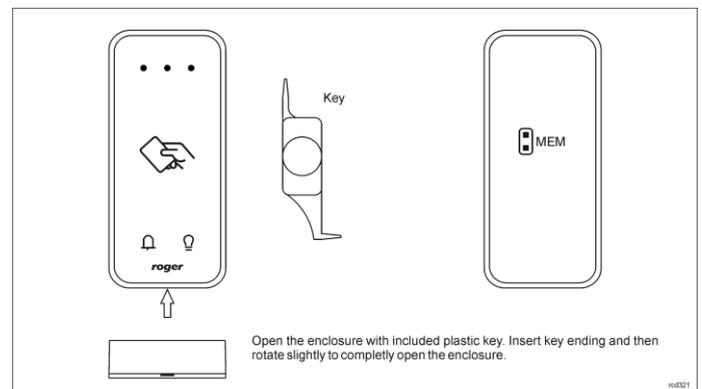

Fig. 2 Enclosure opening and location of service contacts
1. Place jumper on MEM contacts (fig. 2).
2. Place jumper on MEM contacts (fig. 2).